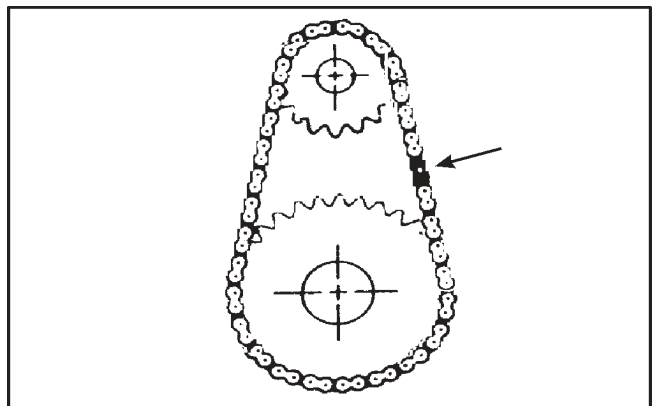

Figure 7-17. Position of idler chain link for removal.
1. Place the gearshift in neutral and roll the vehicle until the connecting link of one of the idler chains is positioned as shown in Figure 7-17.